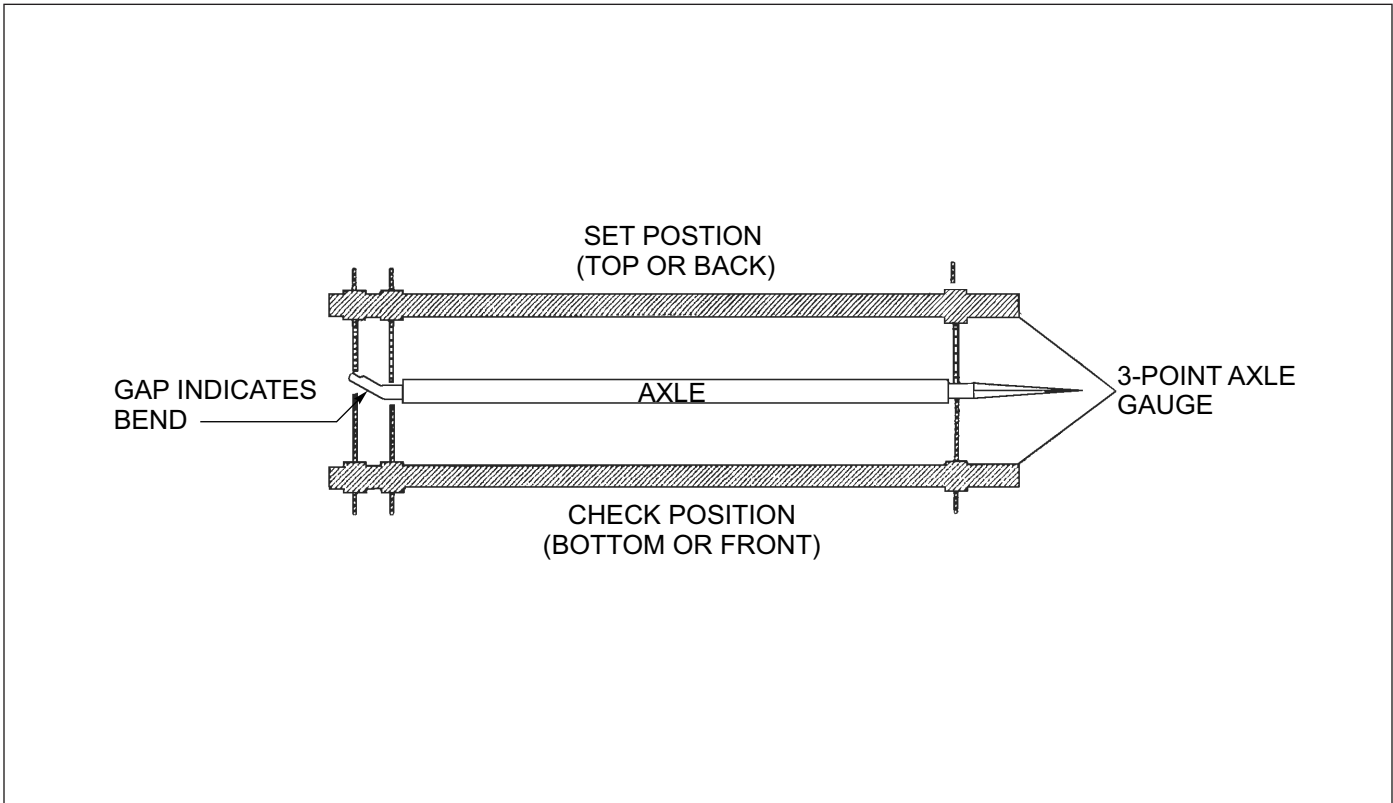

Figure 4-11: Checking Axle for Bend
2. Place a 3-point axle gauge against the front side of the axle, and adjust each axle gauge point to the axle. (Double point end against the inner and outer wheel bearing surfaces of the spindle being checked and the other point on the inner bearing surface on the other spindle (*See Figure 4-11.*)
3. Move the axle gauge and place against the back side of the axle. If either of the points of double point end fails to touch the axle surface, a bent spindle is evident. A point gap of .015" or more is considered excessive tire “toe” and the axle must be replaced (*See Figure 4-11.*)